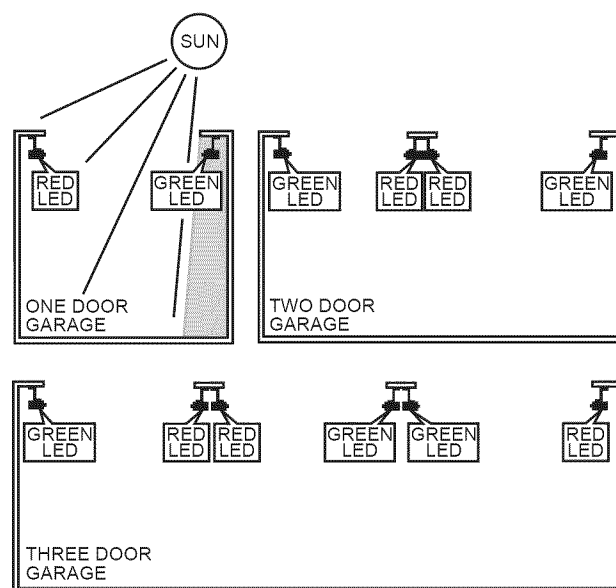

Figure 26 Source/sensor Locations
- For multiple-door garages see (**Figure 26**).